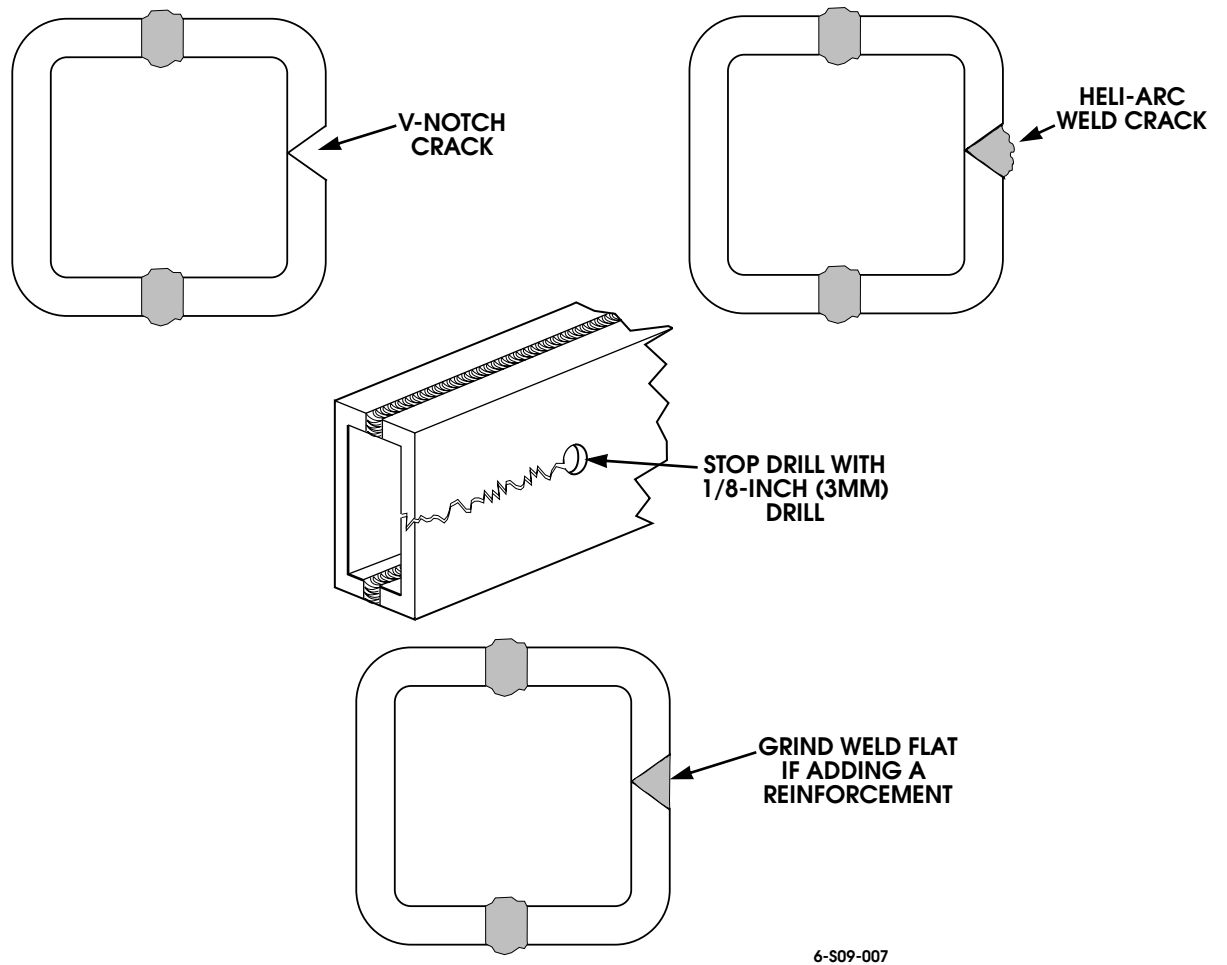

Figure 9-164: Crack Repair
- Stop-drill crack with 1/8-inch (3 mm) drill (Figure 9-164)
- Vee-notch crack (Figure 9-164)
- Heli-arc weld crack with Mig or Tig welder (using a filler metal in accordance with AWS A5.18) (Figure 9-164)
- If reinforcement or fishplate is to be added, grind weld to a flat surface (Figure 9-164)